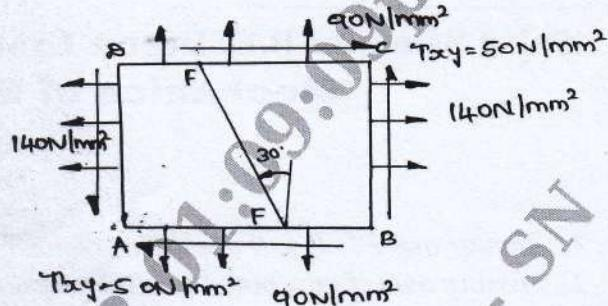

Fig. Q2(b)
- b. A compound bar is made up of Aluminium plate and steel plate as shown in Fig. Q2(b). The length of the compound bar at temperature 20°C is 100mm. If the temperature of the whole assembly is raised by 60°C , determine the stress in each of the material. Further if new compressive load of 20kN is applied to the composite bar. What are the final stresses in steel and aluminium?